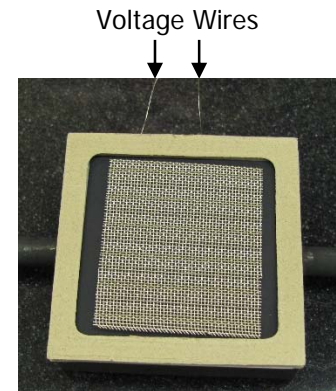

Figure 17
10. Place the remaining seal on the cell so that it is in alignment with the edge of the cell and manifold (Figure 17). Make sure the seal does not overlap the silver mesh; trim the silver mesh to a slightly smaller size if necessary to prevent overlap.